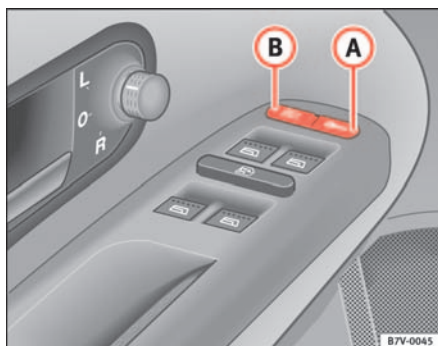

Fig. 57 Detail of the driver door: central locking button
- Press button  ⇒ fig. 57  ⇒ .